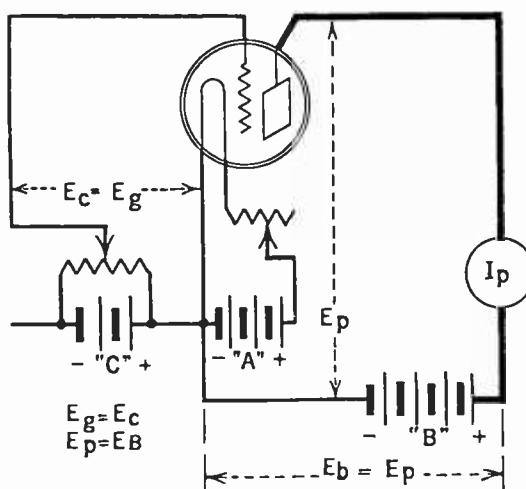
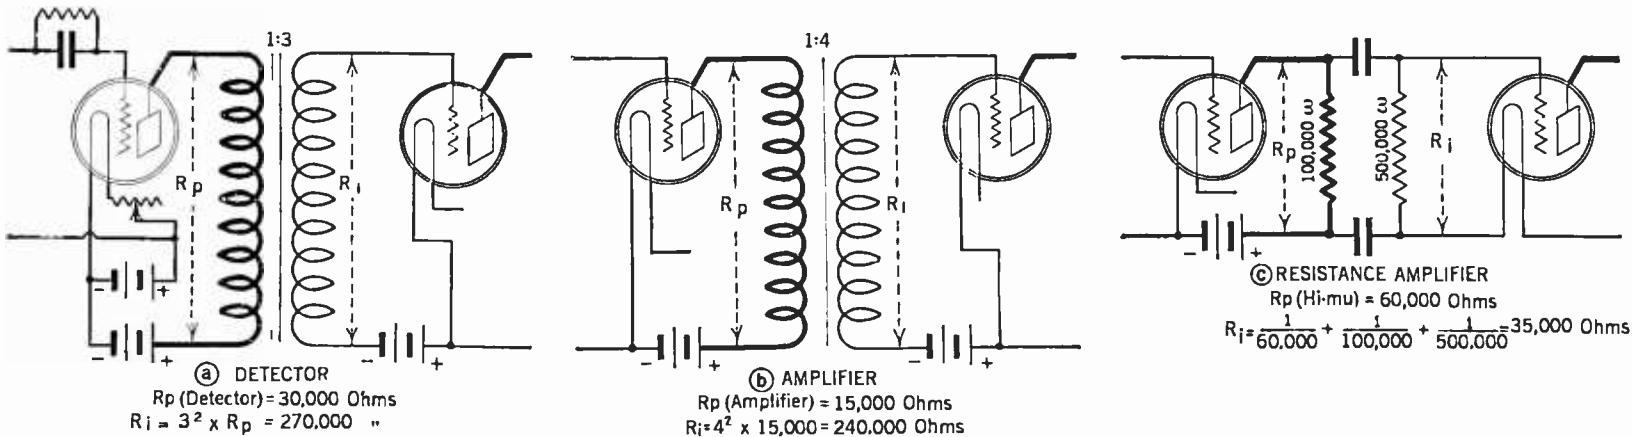
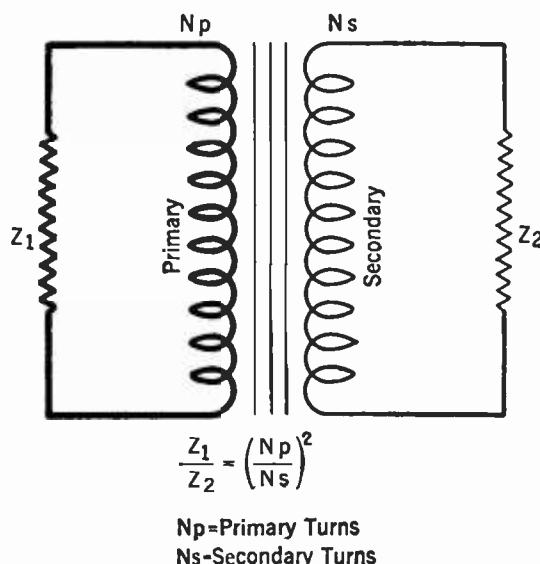

FIG. 1
FIG. 4
FIG. 5
ASIDE from the tube and its accessory batteries, all that is necessary to measure static characteristics of tubes, which show in the form of curves the relations between grid, plate, and filament voltages and the corresponding currents, is a good voltmeter of double range, 0-10 and 0-100 volts, and a good milliammeter, and any one in his home laboratory can have many hours of enjoyment studying tubes by means of these instruments. With such apparatus diagrammatically represented in Fig. 1, let us carry out the following procedure:
Therefore, if we insert into the grid and plate circuits of the tube under test, a resistance approximating the impedance into which the tube normally looks we shall have the conditions of test more nearly like those occurring in practice. Fig. 3 contrasted with Fig. 1 shows these additions, and Fig. 4 the method of calculating the input and output resistance. The tube normally looks back into the output impedance of a similar tube which is "stepped up" by the square of the turn ratio of the connecting transformer. Fig. 5 shows how two differing impedances may be coupled together by means of a transformer. In this case Z_1 may be the output impedance of a semi-power tube and Z_2 the impedance of a loud speaker. If the turn ratio of the transformer obeys the formula
about 30,000 ohms—and coupled to it by means of a 3:1 ratio transformer, the tube looks back into approximately $30,000 \times (3)^2$ or $30,000 \times 9 = 270,000$ ohms. If the tube is the second of a two- or three-stage resistance amplifier employing high- μ tubes, the tube looks back into three impedances in parallel as shown in Fig. 4. In the case of the last tube in a set which works into the loud speaker, its output impedance will be approximately matched by the impedance of the
Consideration of the curves in Fig. 5 and those in *Popular Radio* already mentioned show that the greater the impedance in the plate circuit the straighter will be the characteristic. Some loud speakers have very little impedance at low frequencies so that the curve worked over is not straight but curved and a peculiar distortion results when bass violins, or kettle drums are played. The remedy lies in a lower impedance tube, say one of 4000 ohms, and some tube manufacturers are making preparations to supply such tubes. They will necessarily have a low amplification factor and will draw considerable plate current but will be capable of delivering considerable power. Output transformers useful in overcoming this type of distortion are manufactured by the General Radio Company, and are designed to couple low impedance speakers of the cone type to 201-A tubes and to low impedance power tubes.
For example, the values in Table 1 are for $\frac{\mu^2}{R_p}$ and $\frac{\mu}{\sqrt{R_p}}$ and knowing the input impedance as figured in Fig. 4 and the voltage that is being placed on the grid of an amplifier, it is a simple matter to compute the power and voltage amplification and the actual power output in watts delivered to a loud speaker. It has already been mentioned that a reasonable amount of power to require from an amplifier is .06 watts which will give a good comfortable signal from an average loud speaker of the cone type without overloading distortion.